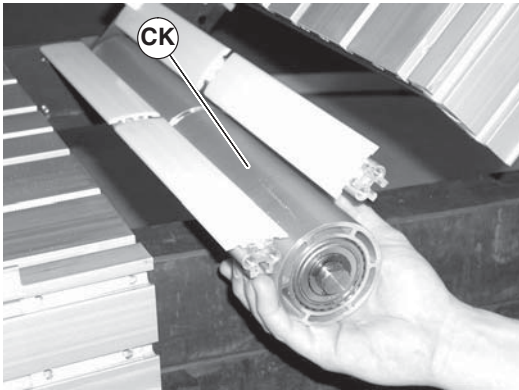

Figure 82
- Slide the idler pulley assembly (Figure 82, item CK) out of the knuckle plate on the opposite side.